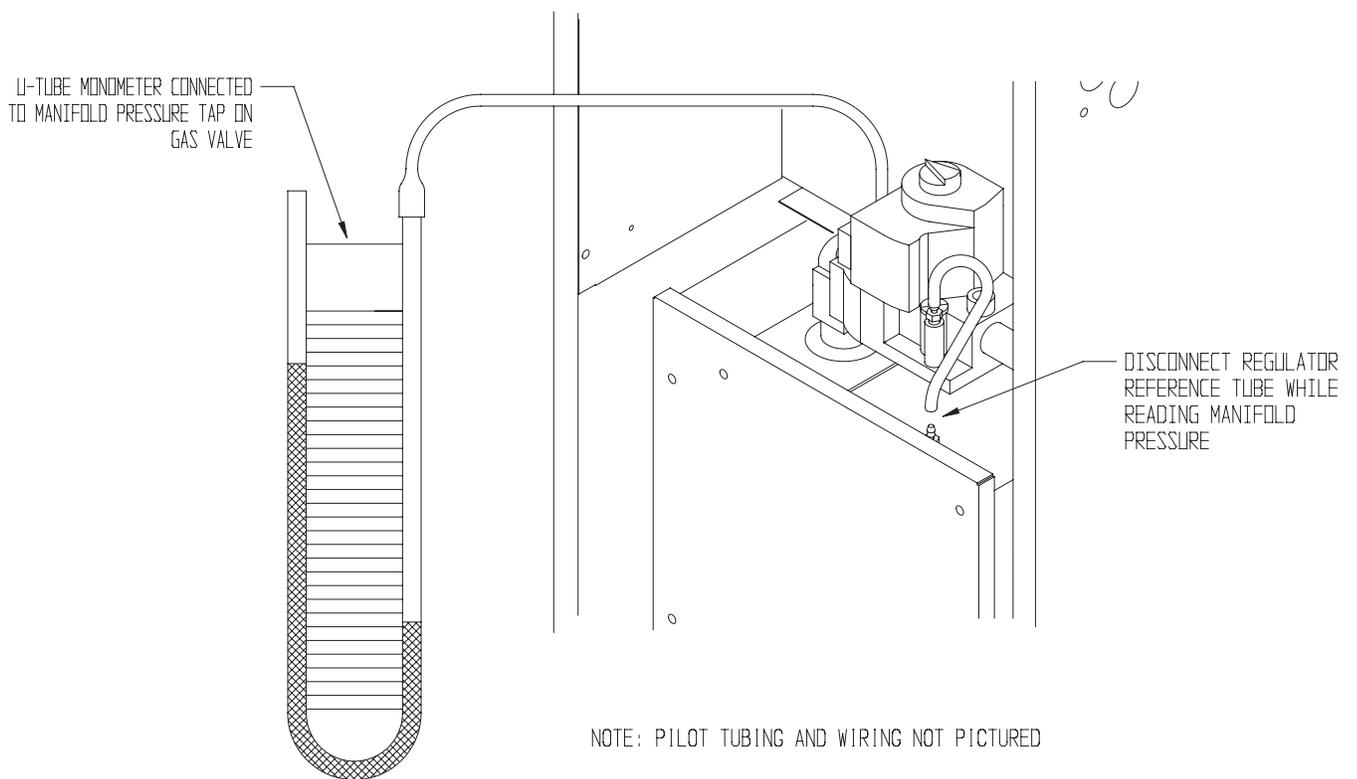

FIGURE 10.4: MEASURING MANIFOLD PRESSURE
- c) Disconnect the silicone regulator tube from the hose barb on the gas valve (Figure 10.4).